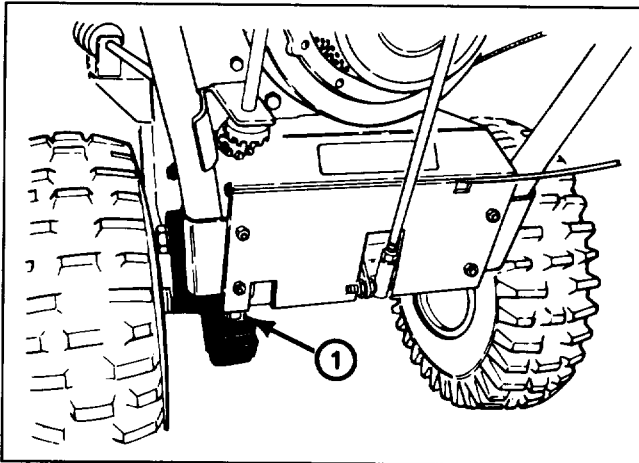

Figure 21
1. Annually lubricate drive chain with chain lubricant (Fig. 21). Wipe up any excess oil.